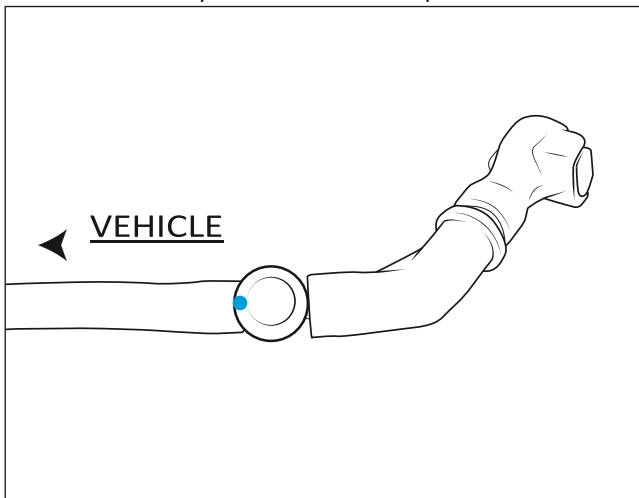
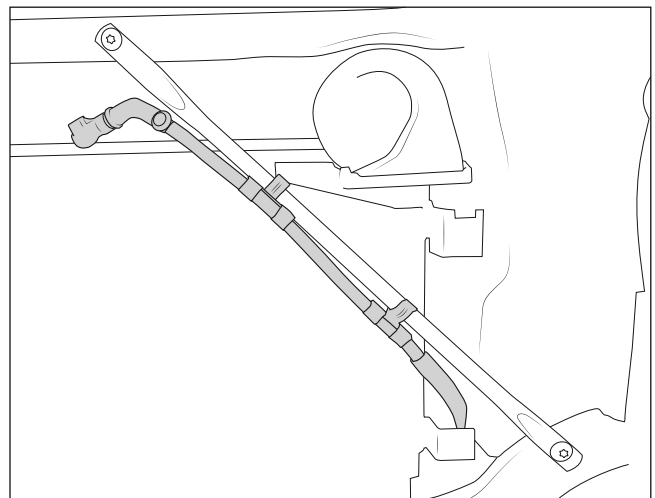

Figure 4
Figure 5
- D. Mark the 1-way valve washer line to show proper orientation in vehicle (fig. 4). Mark the side toward the nozzle for easy identification later. Reinstalling it backward will prevent fluid flow to the washer nozzle. Unclip the hose from the radiator support bar (fig. 5) and snake it through the radiator support and remove it completely. Save the 1-way valve and the rear quick connect. The rest will be discarded.